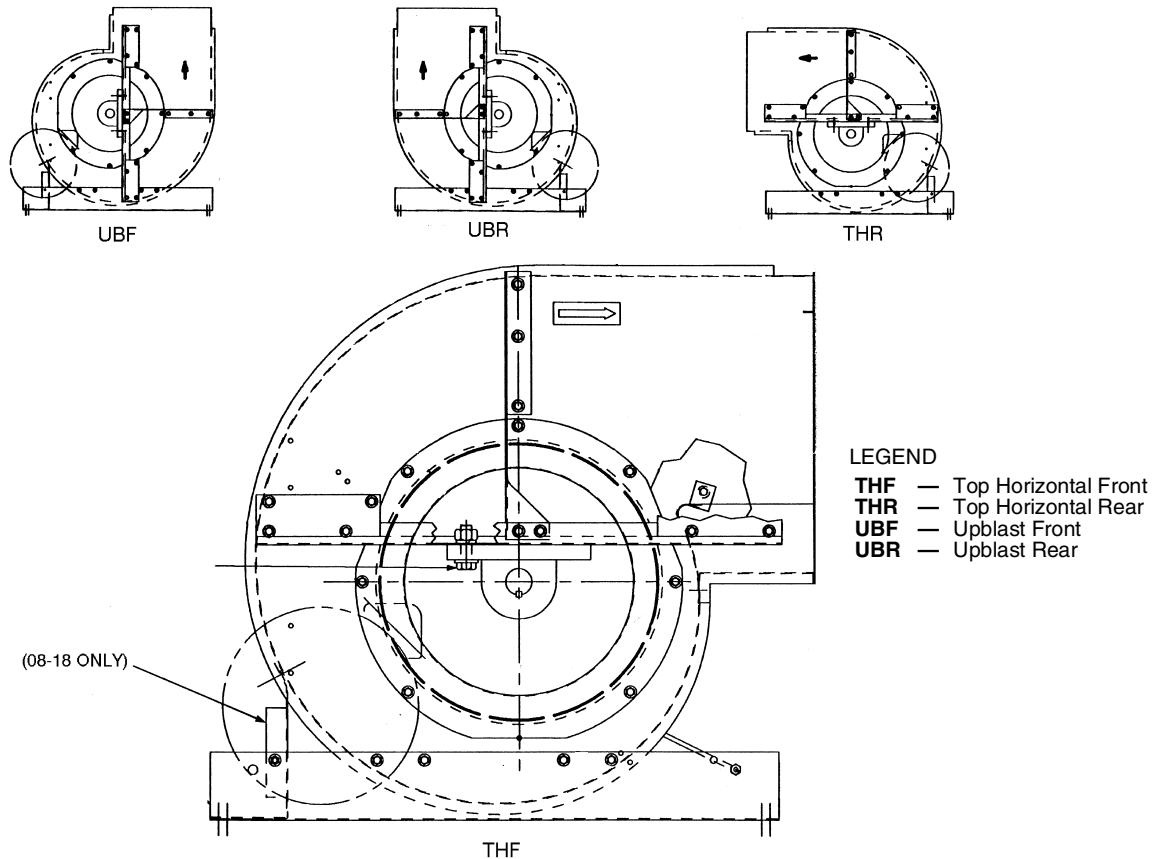

Fig. 42 — Fan Discharge Positions, Sizes 03-18
1. Sizes 03-18 w — See Fig. 42. It is not necessary to remove the bearing support channels from the fan housing.